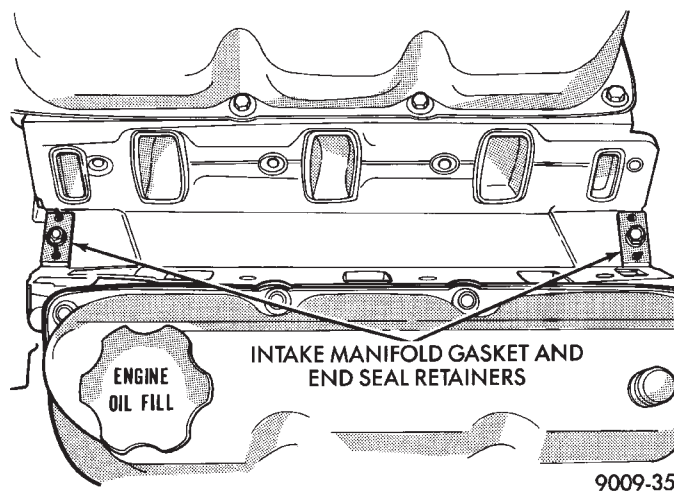

Fig. 13 Intake Manifold Gasket Retainers
(3) Carefully install the intake manifold gasket (Fig. 13). Torque end seal retainer screws to 12 N•m (105 in. lbs.).